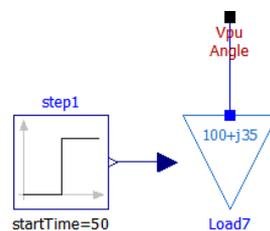

Figure 4: Creating load step event at Load 7
- Connect it to the input of load as shown in Figure 4.